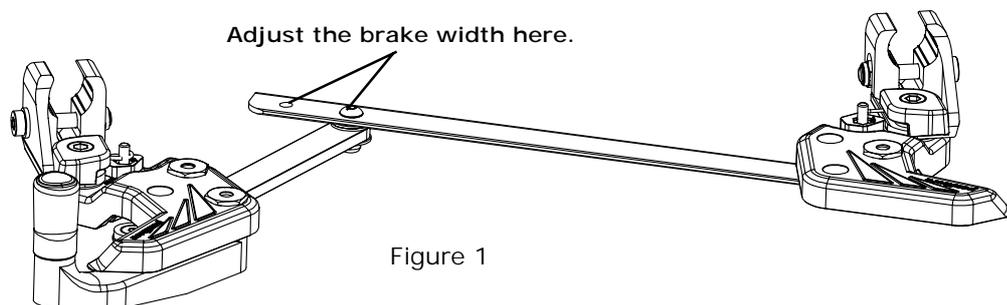

Figure 1
2. Adjust the correct width on the brake. On the middle rod there are two holes for adjusting the width of the brake. **See figure 1.** Loosen the nut and adjust to the desired width. On the brake 30-33, the inner hole is for width 30. On brake 36-39 the inner hole is for width 36, and so on.